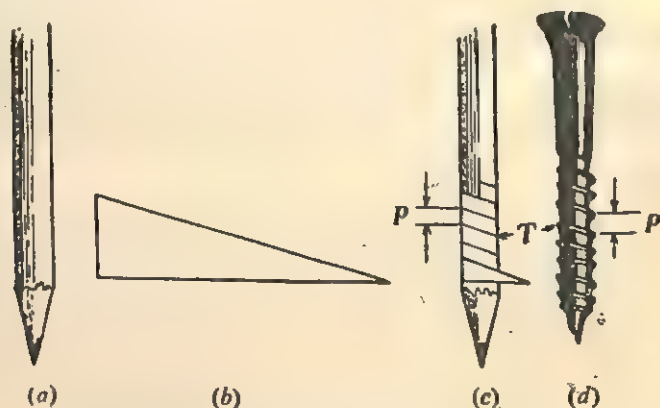

Fig. 1.3. Relation between a screw and an inclined plane. (a) Pencil (b) Inclined plane. (c) Inclined plane wound on the pencil. (d) Actual screw.
**Procedure.** (i) Cut the paper sheet with scissors or blade in the form of a right triangle to have an inclined plane as shown in Fig. 1.3(b).
(ii) Wind the inclined plane paper on the pencil as shown in Fig. 1.3(c).
(iii) Now compare the different layers of the paper wound on the pencil with actual threads of the screw which is shown in Fig. 1.3(d). The slant lines of the layers [Fig. 1.3(c)] represent the **thread  $T$**  of the screw and the distance between two consecutive lines represents the **pitch  $p$** .
**Conclusion.** The above observations [Fig. 1.3(c)] reveal that a **screw** may be regarded as an *inclined plane* wound on a cylinder.